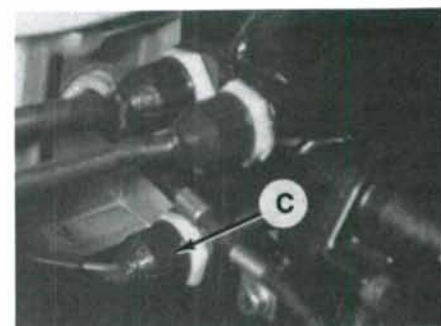

Fig. JS2-28—Unscrew cap (C) and withdraw wires to expose wire connectors to test rpm limiter valve on JS550 models. Refer to text.
Disconnect fuel return hose at fuel tank and plug hose opening. Unscrew cap (C—Fig. JS2-28) at electric box and withdraw wires to expose wire connectors. Disconnect orange/white and black/red wires at connectors. Connect a pressure pump or a low air pressure supply to fuel return hose (R—Fig. JS2-27) and blow air through hose into rpm limiter valve (V). No air should be felt expelling out rpm limiter hose (L). Connect terminal end of orange/white wire, leading to rpm limiter valve, to the positive terminal of a 12 volt battery. Connect terminal end of black/red wire, leading to rpm limiter valve, to the negative terminal of a 12 volt battery.